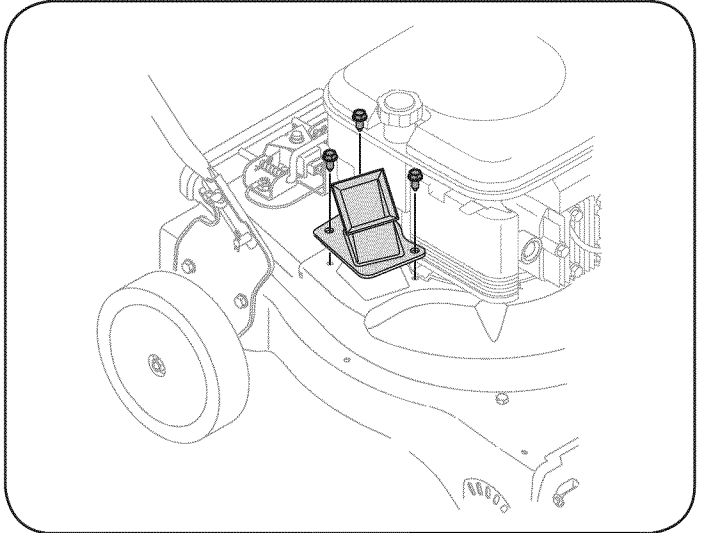

Figure 26
3. Remove the three hex cap screws holding the chipper chute to the upper housing. See Figure 26.